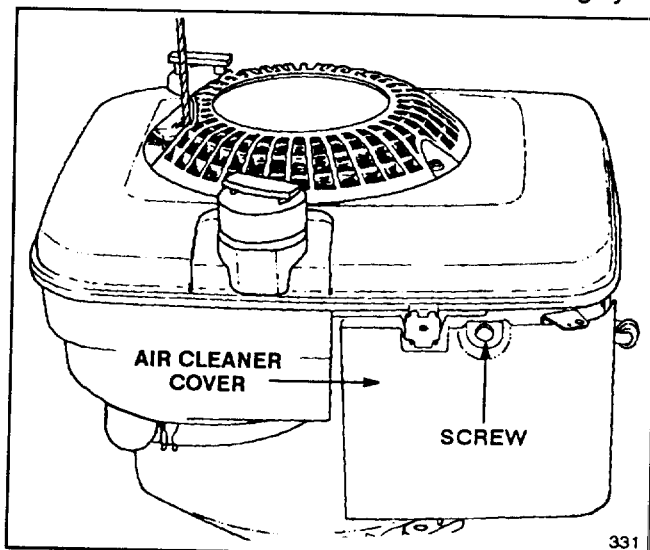

Figure 11
2. Remove screw securing air cleaner cover to engine (Fig. 11). Tilt cover down and clean thoroughly.